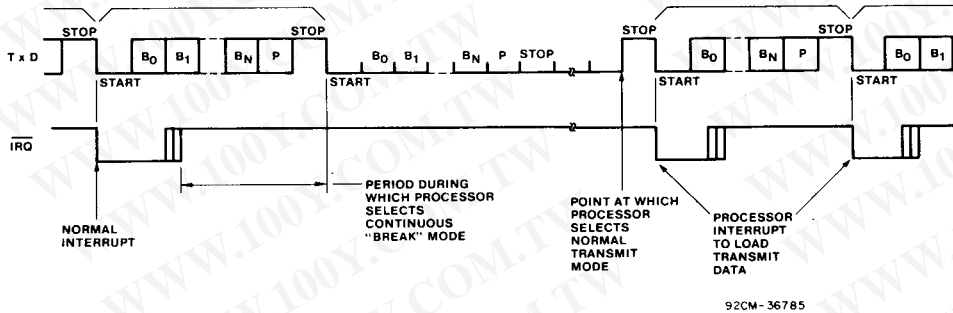

Fig. 18 - Transmit continuous "BREAK".
**Transmit Continuous "BREAK" (Fig. 18)**